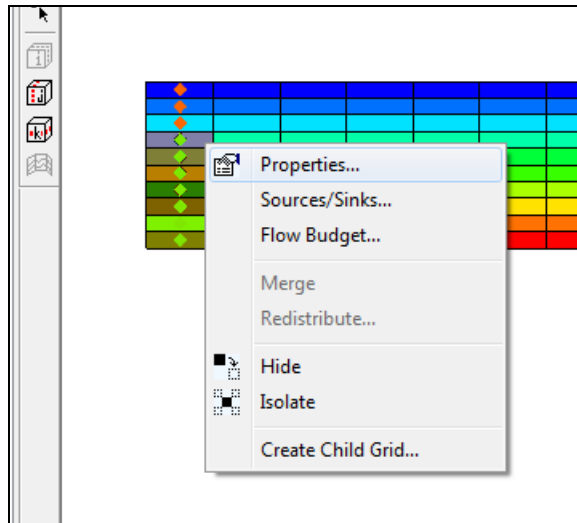

Figure 2 Assigning the constant concentration boundary condition
7. Choose the **Select Cells**  tool and select the 7 lower-most cells at in the leftmost column. (See Figure 2)